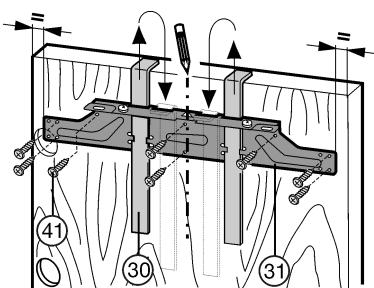

Fig. 19
- ▶ Unscrew the cross-piece Fig. 19 (31) by undoing the lock-nuts Fig. 19 (32).
- ▶ Attach the cross-piece Fig. 19 (31) together with the assembly aids Fig. 19 (30) to the inside of the unit door.
- ▶ Concentrically align the crosspiece Fig. 19 (31): Mark a short centre line on the unit door and put the tip of the arrow on the crosspiece over it.
- ▶ Tightly screw the crosspiece Fig. 19 (31) into place using at least 6 screws Fig. 19 (41).
- ▶ Tightly screw the crosspiece Fig. 19 (31) into place using 4 screws Fig. 19 (41) at the edge.
- ▶ Raise and remove the assembly aids Fig. 19 (30), turn them and slide them into the adjacent openings.